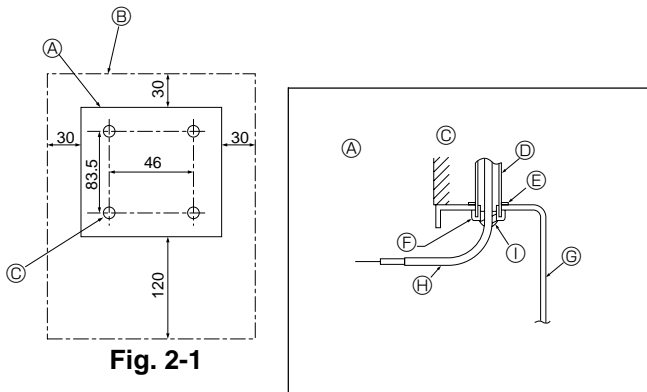

Fig. 2-1
(1) Select an installing position for the remote controller. (Fig. 2-1)
#### [Fig.2-1]